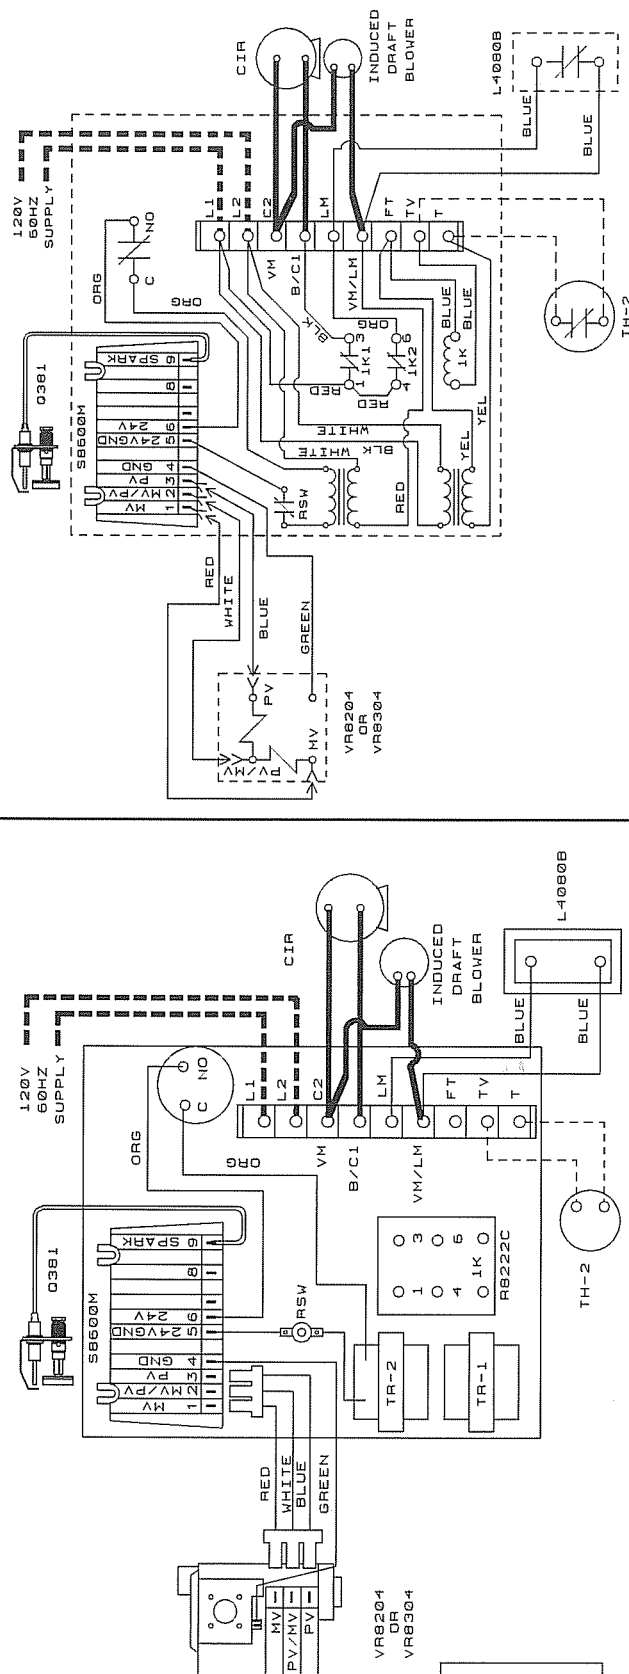

FIGURE 29
4. Honeywell hot water control and intermittent ignition wiring for DV series boiler with fail safe relay. See figure 29 on page 28.